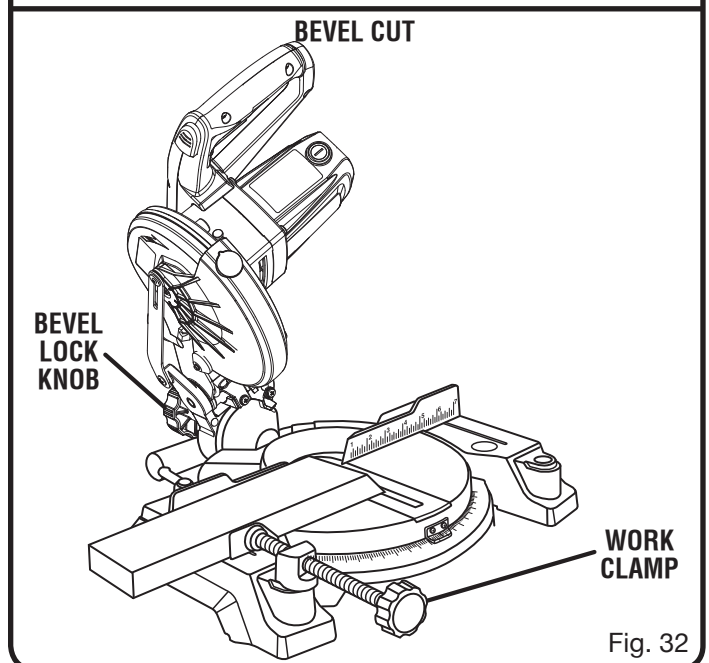

Fig. 32
- Grasp the stock firmly with one hand and secure it against the fence. Use the optional work clamp or a C-clamp to secure the workpiece when possible. *See Figure 32.*